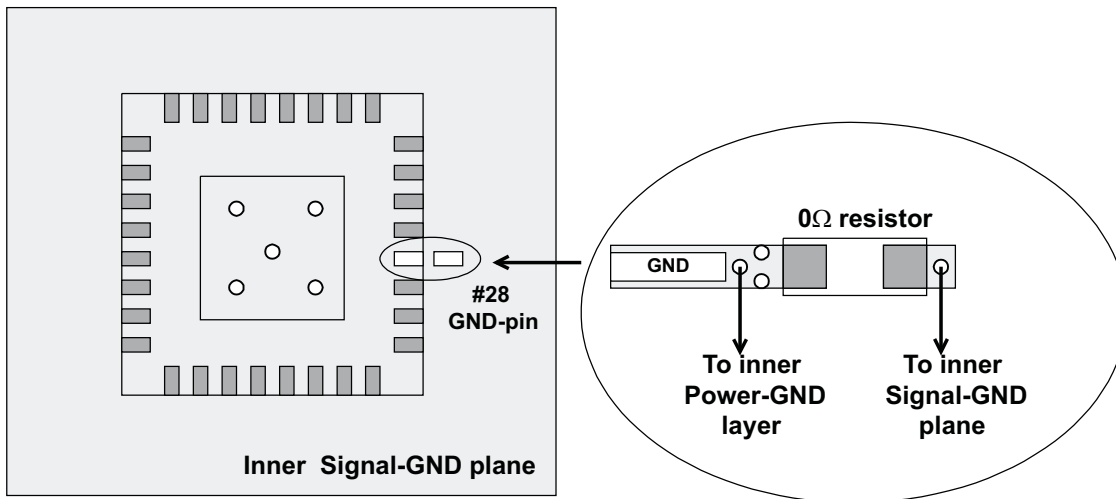

Figure 49. GND Layout Example
- Use signal GND for VREF2 and VREG3 capacitors, RF and VFB resistors, and the other sensitive analog components. Placing a signal GND plane (underneath the IC, and fully covered peripheral components) on the internal layer for shielding purpose is recommended. (See Figure 49)
- Use power GND for VREG5, VIN and V_{OUT} capacitors and low-side MOSFETs. Power GND and signal GND should be connected near the device GND terminal. (See Figure 49)